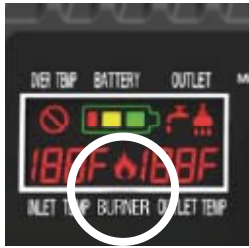

FIG. 5
- Position the Output Temp Control Dial to the central position. Depress the Pump button, the electronic ignition should be heard igniting the burner. When the unit is ignited the Burner icon on the control panel will illuminate and outlet water temperature readout will increase. (FIG. 5)